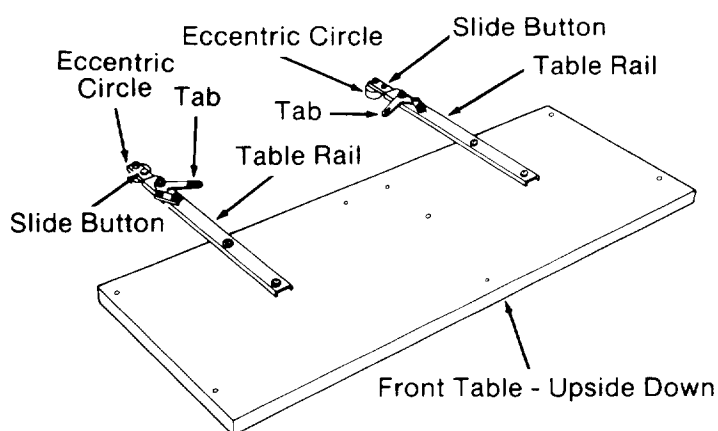

Fig. 34
7. Place the two *table rails* on the *front table* as shown. The *tabs* should point toward each other when both *rails* are in place, and the *eccentric circles* should be toward the floor. (Figure 34)
9. Fasten the *table rails* to the *front table* using four pan head screws and flat washers. Tighten with a Phillips screwdriver. (Figures 34 & 35)